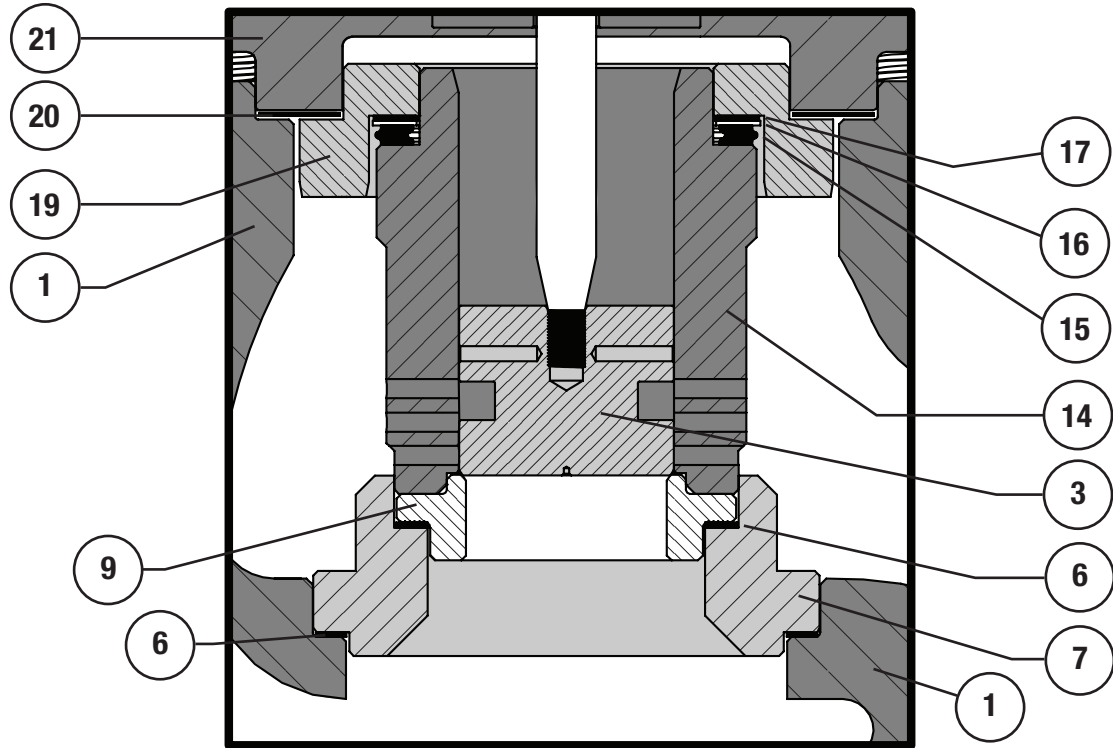

Figure 30 Metal Seat Restricted Trim Diagram
- 7 **For Reduced Trim:** Install the cage adapter (Key 19). Apply Permatex® Nickel Anti-Seize (Key A) to the top of the cage adapter and top surface of the cage adapter gasket (Key 20) and install. Refer to Figure 30.